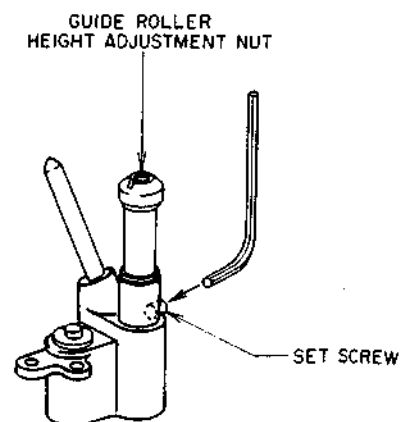

Fig. 7-6
- 1) Slightly loosen the set screw at the lower part of the Guide roller so that the Guide roller can be adjusted with reasonable tightness (See Fig. 7-6)